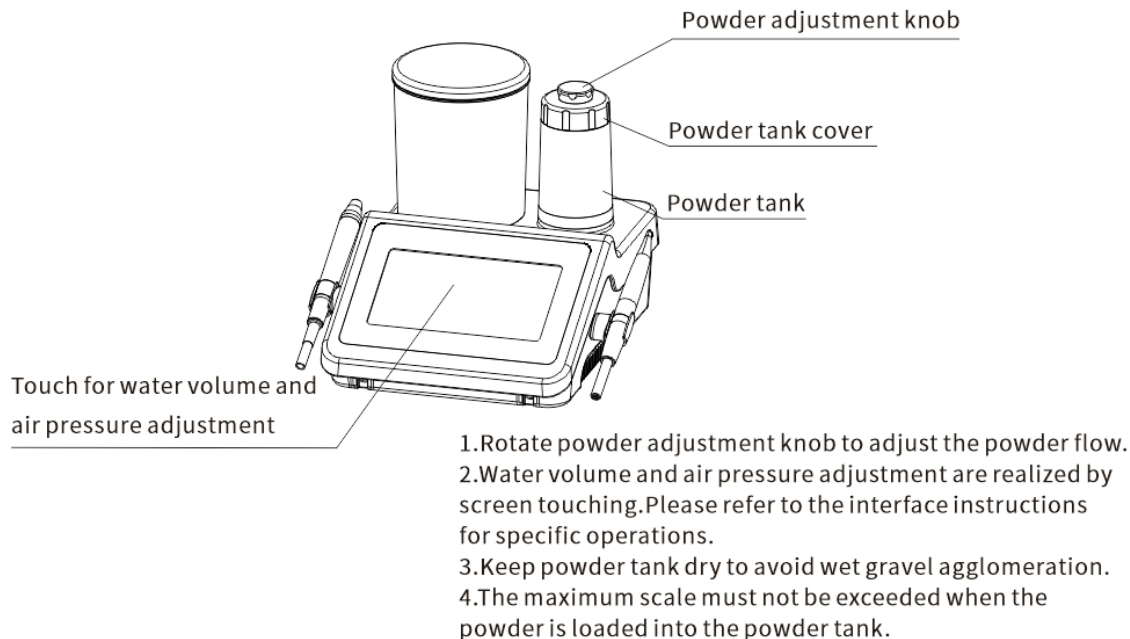

Figure 16
- 2) Insert the external air pipe (black) connector into the air intake connector on the back of the main unit: press the snap ring first and then insert the air inlet connector as shown in Figure 14. Insert the powder tank into the position of powder tank above the main unit (Figure 15, Figure 16).
- 3) Fill a proper amount of water into the transparent water bottle, and insert the water bottle into the sink seat above the main unit (Figure 15, Figure 16).